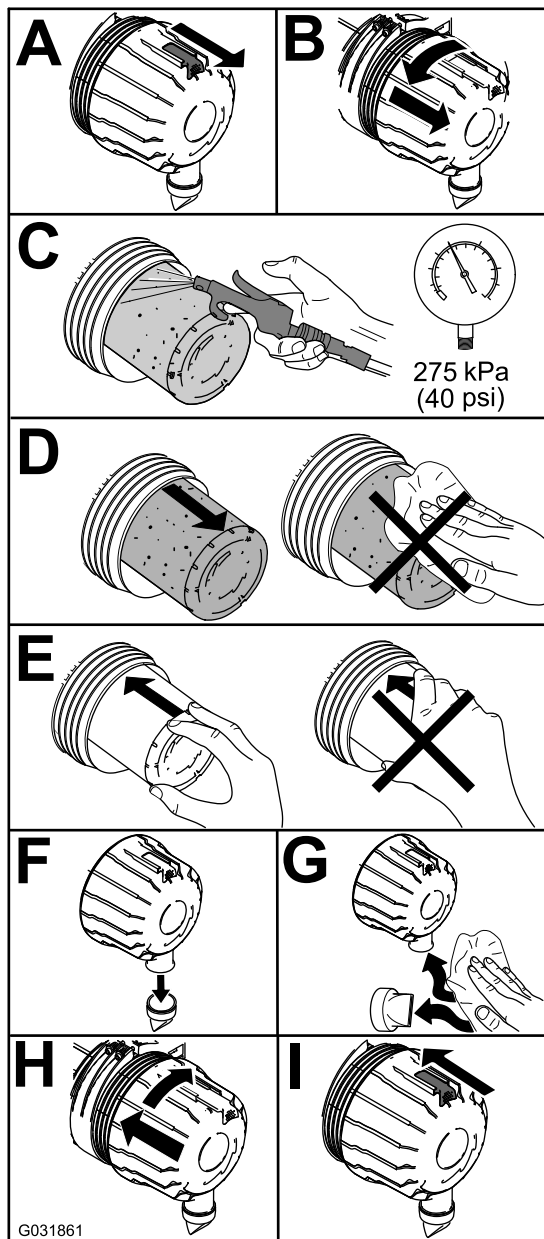

Figure 54
1. Replace the air cleaner (Figure 54).